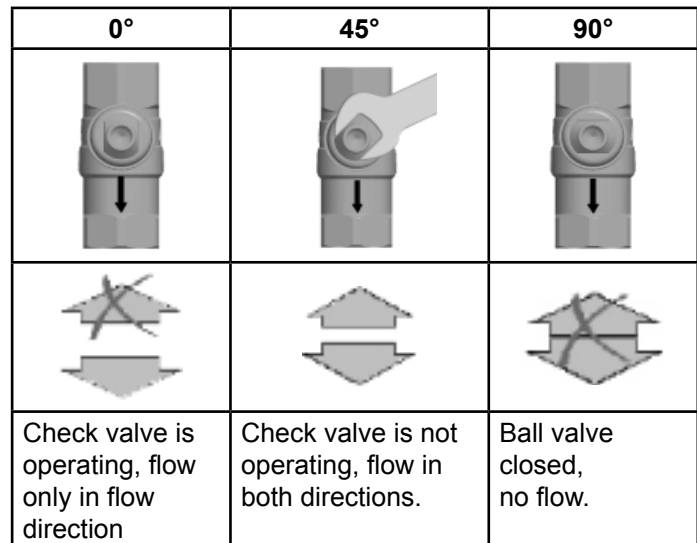

Figure 28
For filling, venting and flushing of the installation the check valves must be turned to the correct position. To set the proper position for the check valves take off the temperature gauges (C, E), remove the top cover (D) and turn the ball valves into the proper position using a wrench (see Figure 28). In the 45° position the balls in the ball valves push the check valves open.